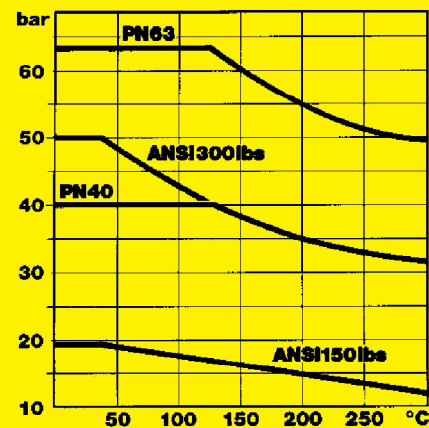

Figure 1: Permissible pressure on seal flange at different temperatures
- seal size standardization (see Figure 1); DN80 or ANSI3" up from measuring ranges 60 mbar